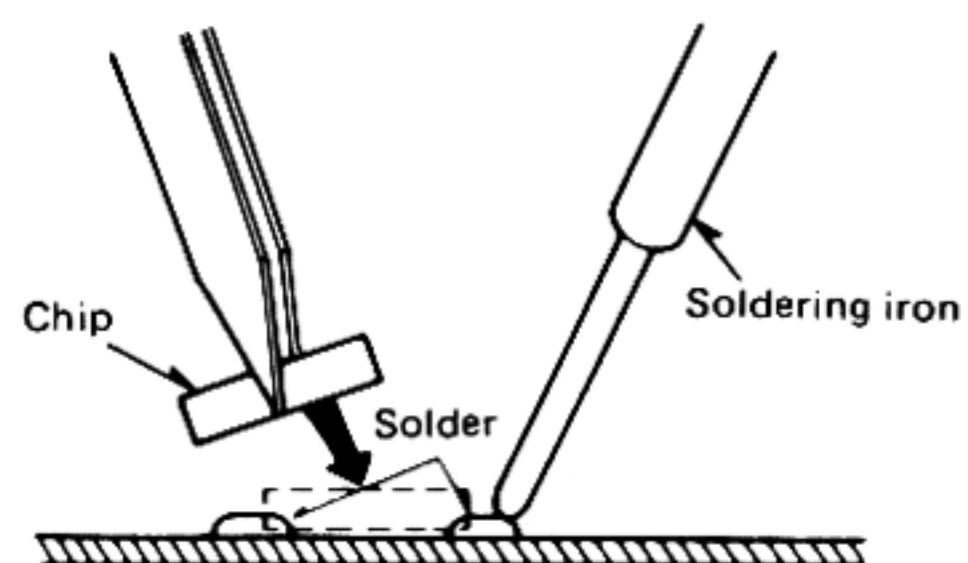

Fig. 20
1. Place solder on the foil where the chip is fitted. Then solder the chip by holding the soldering iron as shown in Fig. 20.